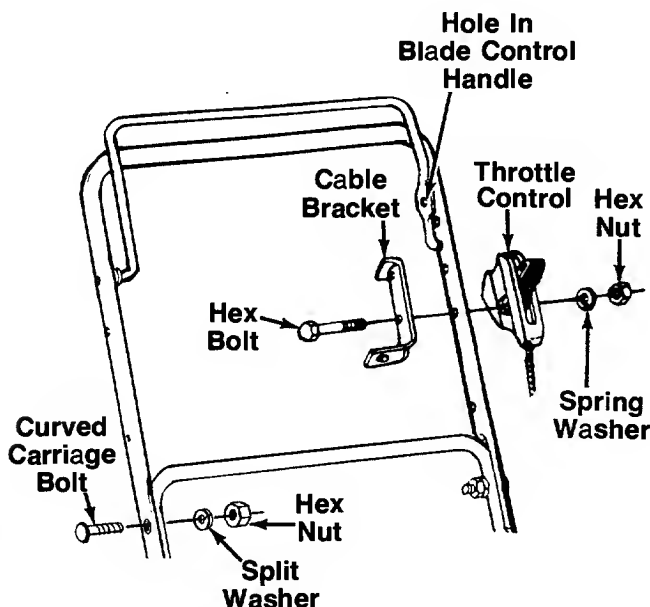

FIGURE 2.
2. Secure the upper handle to lower handle using the curved head bolts, split washers and hex nuts as shown in figure 2.
The throttle control is attached to the engine. Attach the throttle control to the **left** side of upper handle as follows. See figure 2.